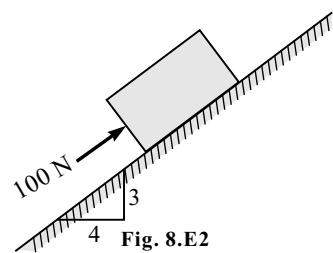

Fig. 8.E2
3. Block of weight 1000 N is kept on an inclined plane as shown in Fig. 8.E3. A force P is applied parallel to plane to keep the body in equilibrium. Determine range of values of P for which the block will be in equilibrium.